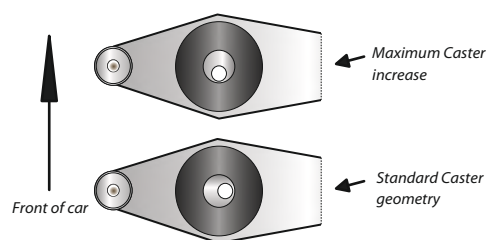

Figure 1: Outer bush orientation
4. Grease the shorter offset stainless steel sleeves, and push them into the outer bush, adjusting the orientation according to Figure 1.